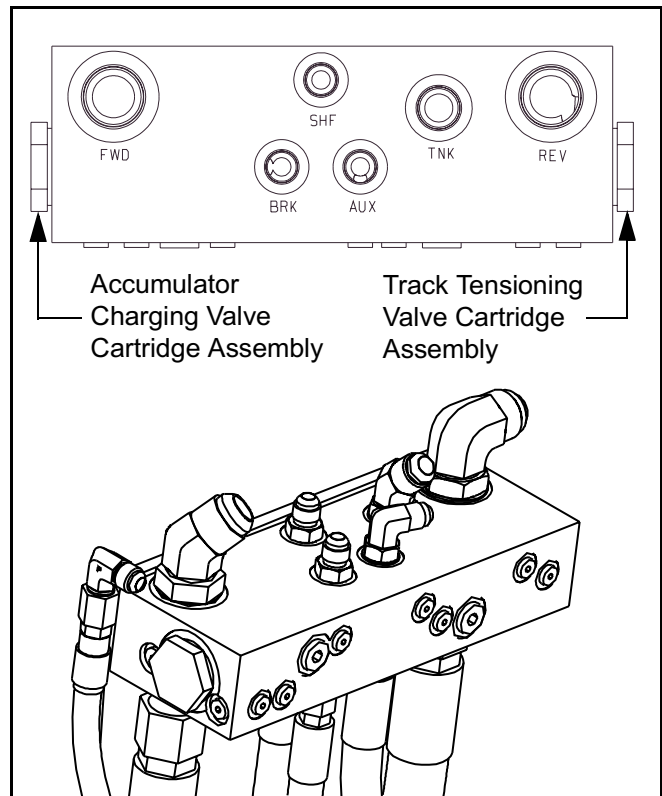

Figure 5 - 21 Track Take-up Valve
- 13) If you cannot feel it pulse, remove the accumulator charging cartridge assembly (Figure 5 - 21), inspect, clean, and re-install in valve body.